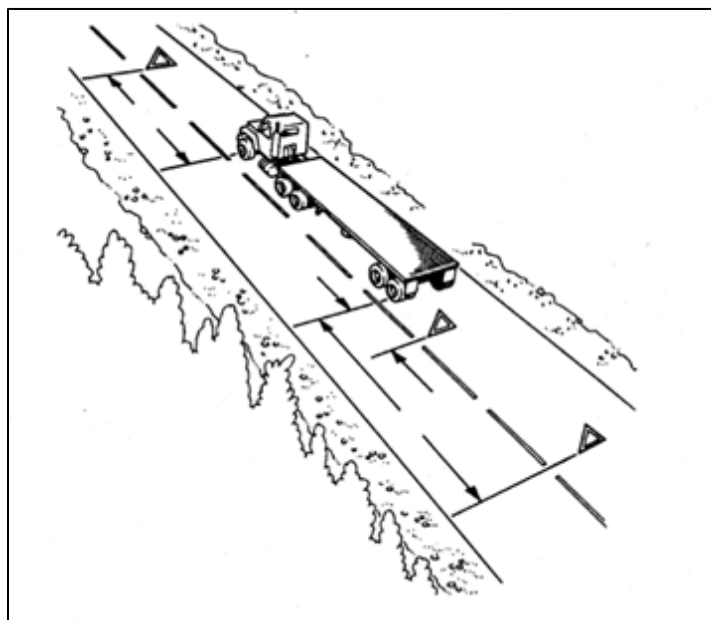

Figure 1-1 Warning Device Placement:
- On the traffic side of the vehicle, within ten (10) feet of the front or rear corners to mark the location of the vehicle. (Fig. 1-1)
- Approximately 100 feet behind and ahead of the vehicle on the shoulder or in the lane you are stopped in. (Fig. 1-1)